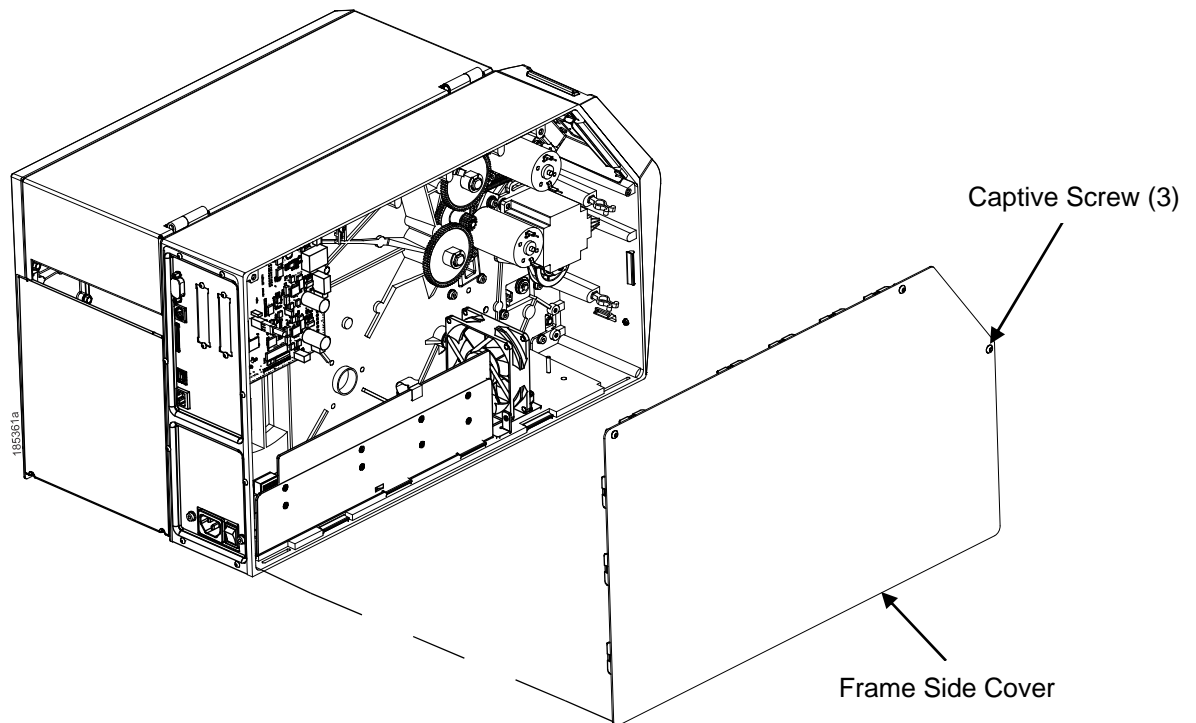

Figure 2 Removing the Frame Side Cover
1. Loosen the three captive screws securing the top of the frame side cover. (Figure 2)
4. Tighten the two captive screws. (Figure 2.)